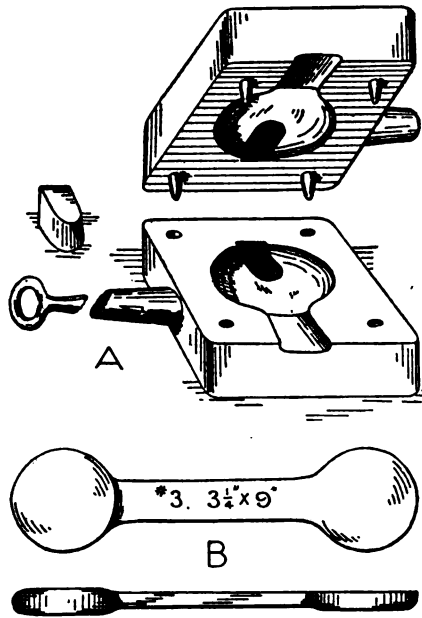
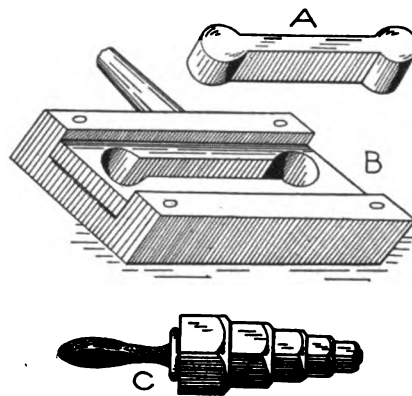

Fig. 47. FORMER AND BLANK FOR WRENCH FORGING.
Fig. 49. A, B.—CONVENIENT FORM OF DIE AND PUNCH. C.—A NEAT ARRANGEMENT FOR GROUPING NUTS.
The supply of wrenches for locomotive and general use, makes frequent demand upon the railroad blacksmith. With the proper tools and a little system, as outlined in the last article, we know of no method superior to the ball forging for making wrenches. The necessary outfit consists of a set of ball swages, and a set of forming and punching dies of suitable proportions. A, Fig. 47, shows
the latter tool, easily and cheaply made of mild steel, the holes for punch, dowell pins and handles, being all the machine work necessary. The impression in tool is made under hammer by a correctly proportioned, smoothly finished pattern, see B, Fig. 47. The patterns for the different sizes of wrenches are preserved and used as those for other tools formerly described. Stamped upon the shank is the number of the ball swage required for the ends of wrench No. 3; also the stock required for entire wrench— $\frac{3}{4}$ x 9 inches (round). This is for $1\frac{1}{8}$ and $1\frac{1}{4}$ -inch nuts. The ball is the same used for making the ash pan lever, shown in last article. The pattern for 2 and $1\frac{1}{4}$ -inch nuts, reads (5) $4" \times 10"$. For $1\frac{1}{8}$ and 1-inch nuts, (4) $2\frac{3}{4}" \times 8"$; for $\frac{3}{4}$ and $\frac{1}{2}$ -inch nuts, $2" \times 8"$.
The smaller wrenches for $\frac{1}{2}$ and $\frac{3}{4}$ -inch nuts can be stamped more advantageously out of $\frac{3}{8}$ or $\frac{1}{2}$ -inch boiler plate, in a tool similar to B, Fig. 49. The cutting surface of this tool is a cast steel plate riveted into the grooved iron block. An additional guide plate for top, with dowel pins, being required to guide punch A. A $\frac{3}{4}$ -inch rod screwed into side of block serves as a handle. The ends of these small wrenches can be finished in one heat, in small tools similar to B, Fig. 47; but more conveniently adjusted in spring swage fashion.
Grouping the nuts with sizes marked upon a handle as shown at C, Fig. 49, is a neat and convenient arrangement, facilitating the work of finishing the wrenches.